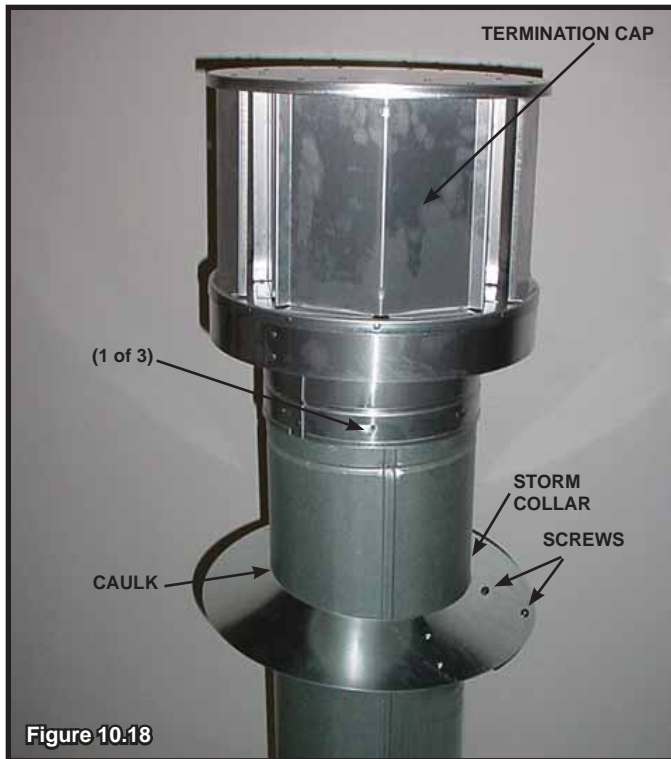

Figure 10.18
- Caulk around the top of the storm collar (see Figure 10.18).
- Secure the cap by driving three self-tapping screws (supplied) through the pilot holes in the outer collar of the cap into the outer flue of the pipe (see Figure 10.18).
There are two sections of the heat shield. One section is factory-attached to the wall shield firestop. The other section is factory-attached to the cap. See Figure 10.18.